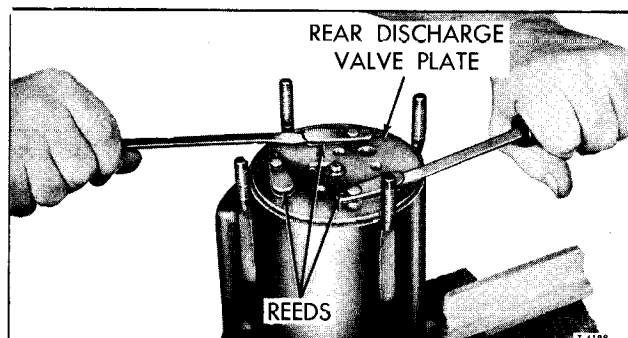

Figure 47—Removing Rear Discharge Valve Plate
7. With two screwdrivers, carefully pry up on the rear discharge valve plate assembly (figure 47). Check for broken reeds or damaged seats and replace entire assembly if such is found.